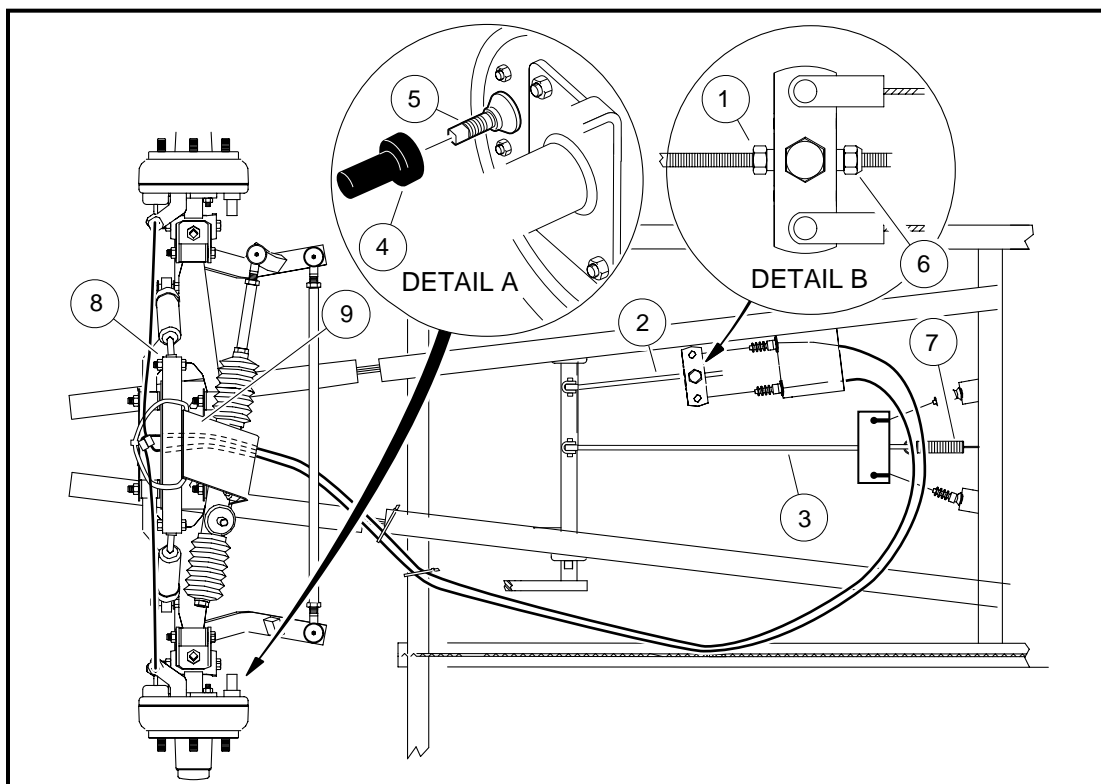

Figure 6-16 Front Brake Cable Routing
2. Release park brake and loosen equalizer retaining nuts on equalizer rod (3) to slightly loosen brake cable (**Figure 6-16, Page 6-9**).
3. Loosen the equalizer retaining nuts (1 and 6) on the front equalizer rod (2) to slightly loosen the brake cable (**Figure 6-16, Page 6-9, Detail B**).
3. Route cable towards the rear of vehicle and over to the driver's side I-beam and secure with wire ties so that the brake cable does not touch the brake equalizer (**Figure 6-16, Page 6-9**). The cable should pass over the inside I-beam (**Figure 6-16, Page 6-9**).
4. Route cable along I-beam towards front of the vehicle and secure with wire ties as shown (**Figure 6-16, Page 6-9**).